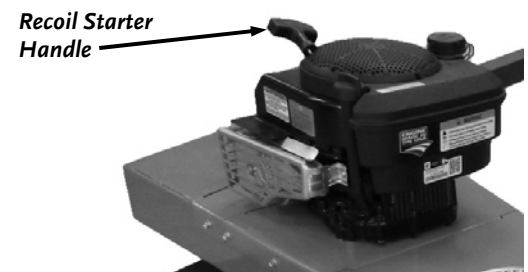

Figure 18
3. Grasp the Recoil Starter Handle and slowly pull until you feel resistance (**Figure 18**). Let the cord retract a little bit and then pull the cord rapidly to start the Engine. One or two pulls usually starts the DR 7.25 ALL TERRAIN TRIMMER/MOWER.